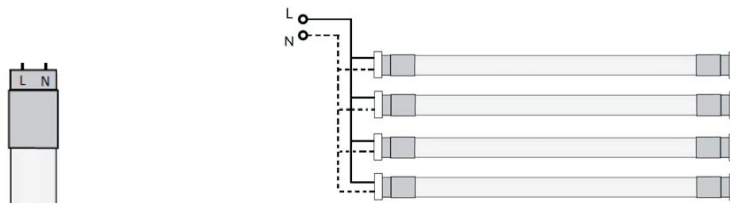

Figure 4
**STEP 6:** Install the Tubul®ARCH T5 on the powered end, marked by “L” and “N” as shown in Figure 4. Attach the field applied label to the luminaire. Install ballast cover and diffuser (if applicable) back on the luminaire, and LED tube.